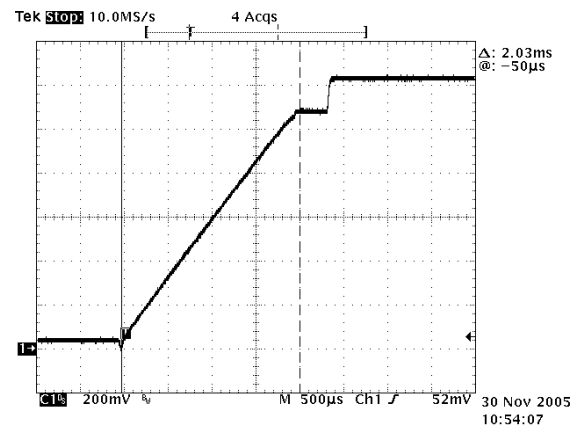

Figure 13. VR11 Startup
The controller will ramp to the 1.1 V, with a pause to capture the VID code then resume ramping to target value based on an internal slew rate limit. See Figure 13. The controller is designed to regulate to the voltage on the SS pin until it reaches the internal DAC voltage. The soft-start cap sets the initial ramp rate using a typical 5.0 µA current. The typical value to use for the soft-start cap (SS), is typically set to 0.01 µF. This results in a ramp time to 1.1 V of 2.2 ms based on equation 1.